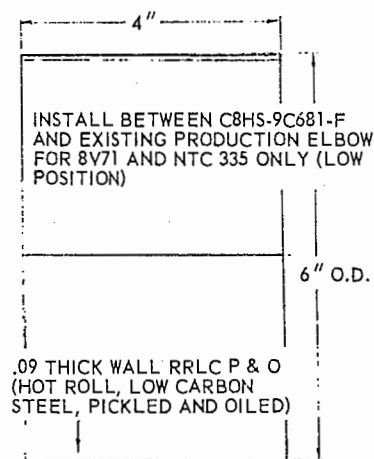

Figure 3
Chart 1 and Figures 3 and 4 list parts required to convert the oil bath air cleaner with minimum rework. The parts listed are DSO or RPO released.
* Parts are required to adopt new cleaner to the existing system. The oil bath cleaner for the 8V71 and NTC 335 engines incorporated a metal elbow. The new dry cleaner does not have the metal elbow and therefore the additional rubber elbow and sleeve are required to complete the installation as shown in Figures 3 & 4. The rubber elbow must be reworked by removing a small section of rubber as shown in Figure 7 to allow the hose to properly fit onto the cleaner outlet.